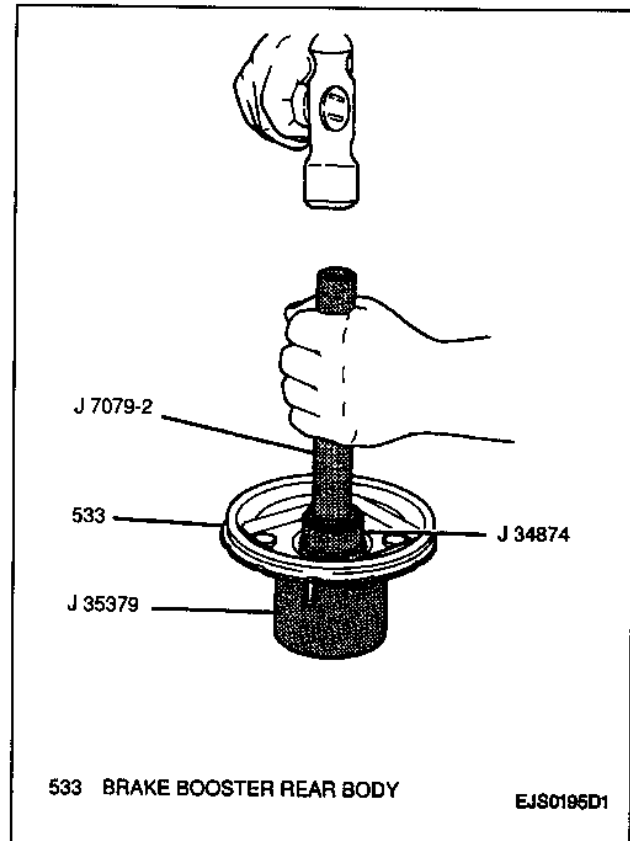

Figure 19—Installing Brake Booster Rear Body Oil Seal
11. A new brake booster rear body oil seal to rear body using a J 34874, a J 7079-2 and a J 35379. Drive oil seal into rear body with a hammer (Figure 19).